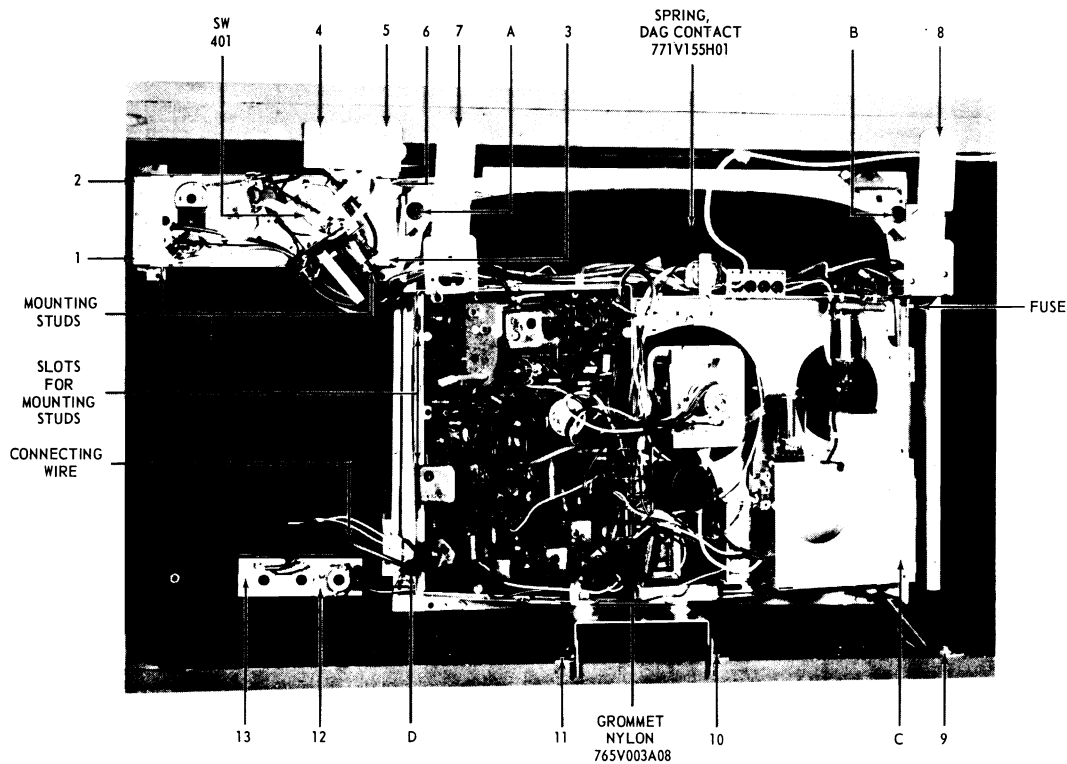

Figure 3 - Rear view of V-2475-12 chassis, showing location of screws for chassis removal.
23" Models (Refer to Figure 3)
7. Remove the screws numbered 1 through 13 in Figure 3. Two studs on the side of the tuner mounting panel can be hooked into slots in the side bracket of the PC board for ease in handling and servicing.
3. Remove the four CRT retaining screws (A, B, C, and D in Figure 3) and carefully remove the CRT. The strap around the CRT and the four mounting ears are part of the 23EZP4 CRT and cannot be removed.